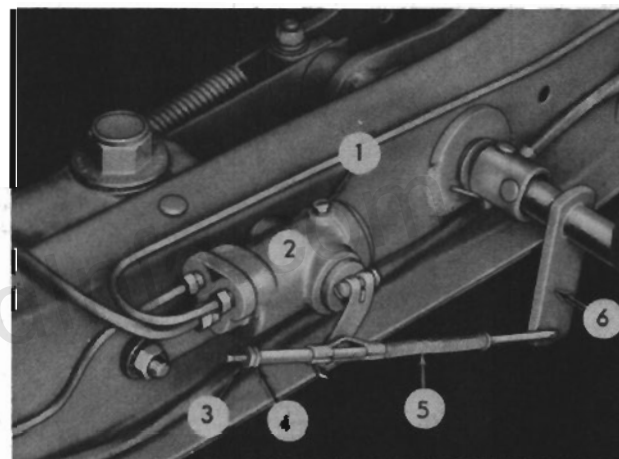

FIG. 9
Disconnect the Hill Holder operating rod (5, Fig. 9) from the clutch release shaft lever (6). Disconnect the brake fluid lines. Remove the mounting bolt nut and remove the Hill Holder.
To adjust the Hill Holder, loosen the lock nut (3, Fig. 9) on the end of the operating rod (5) and turn the adjusting nut (4) either to the right or left to provide simultaneous Hill Holder release and clutch pedal adjustment. When the correct adjustment is obtained, tighten the lock nut securely.